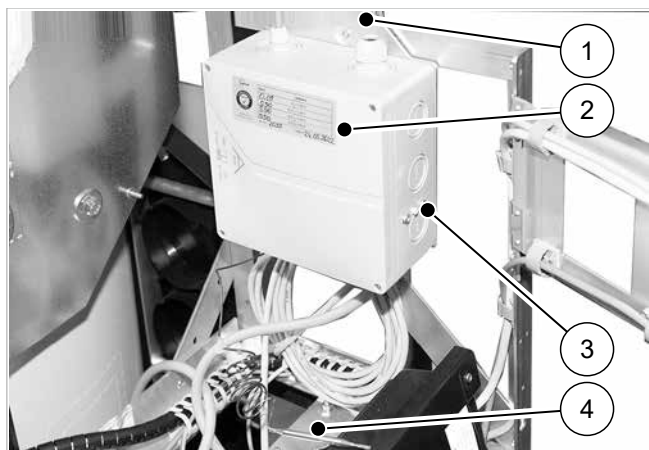

Fig. 18: Connection box for heating cartridge, fitted
1. Push the safety temperature limiter (4, → fig. 18) into the sleeve of the heating cartridge and secure it with the spring connector supplied.